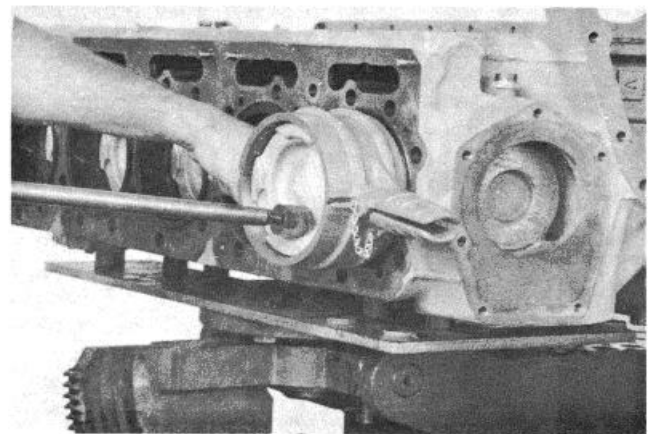

Fig. 14-17. Install The Piston And Connecting Rod Assembly.
- c. Push the piston through the ring compressor and into the cylinder liner, Fig. 14-17. Do not use a metal device to push against the piston. **Make sure the tang of the connecting rod is toward the camshaft side of the cylinder block.**